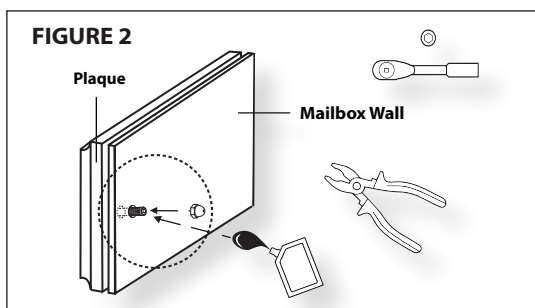

FIGURE 2
- 4) Apply a small amount of silicon sealer to the inside of the mailbox around the studs where they come through the mailbox. Using the acorn nuts provided, secure the plaque from the inside of the mailbox. Do not over tighten. **(SEE FIGURE 2) Use pliers or 3/8" socket wrench to tighten down acorn nut.**